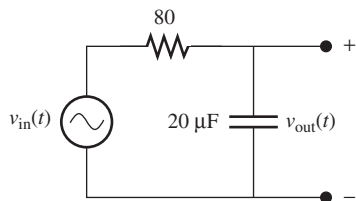

FIGURE P7.48 Circuit for Problem 7.48.
- 7.48 (A) Use PSpice for Bode plot analysis of the circuit shown in Figure P7.48, given the voltage source $v(t) = 15 + 5 \sin(1000\pi t) + 8 \cos(4000\pi t + 30^\circ)$.